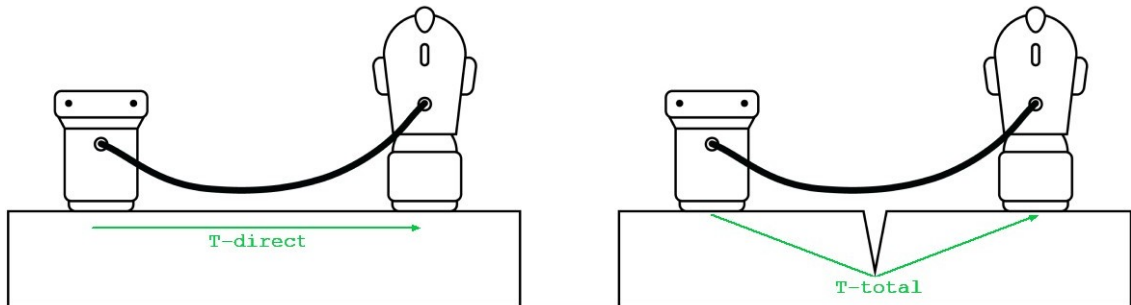

Figure 17: Direct and total sound propagation times
The A1410 PULSAR detects the arrival time of the transmitted pulse analyzing some waveform events. The first event is waveform's first change from zero to minus values, see ① on Figure 17, also called the inflection point. The second event is the waveform's rise from minus values to zero forming a peak ②, also called first negative peak.